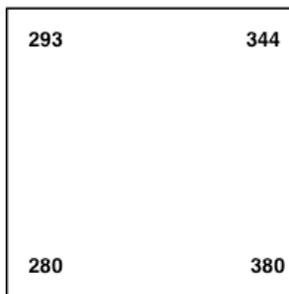

Figure 1.3a
- Check the numbers (**representing the pressure registered from each sensor** at the vertices of the balance board) on the screen → they should (more or less) coincide with the numbers in **Figure 1.3a**